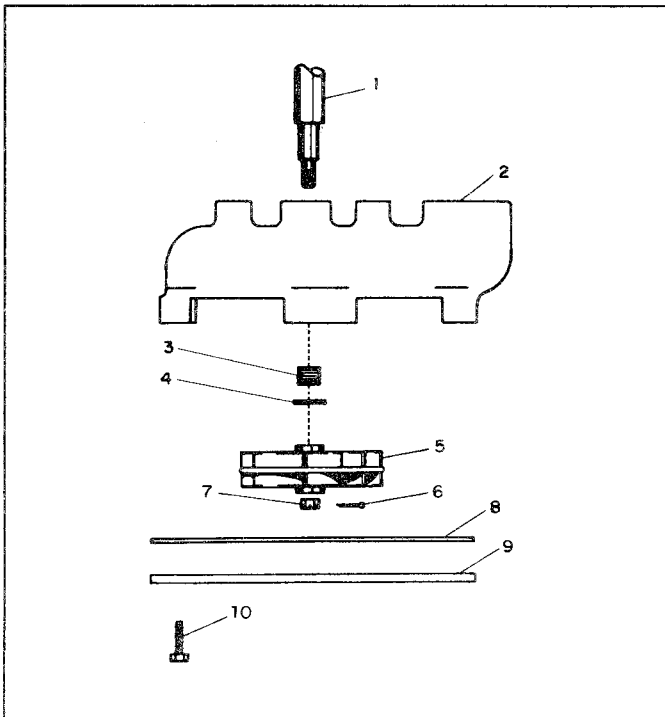

Figure 13. Double Suction Impellers
1. Double Suction Impellers (Figure 13):